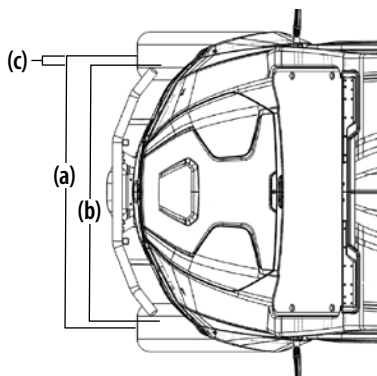

Figure 5-33
4. Measure the distance between the center of the front tires at hub height on the front (a) and rear (b) of the tires. See Figure 5-33.